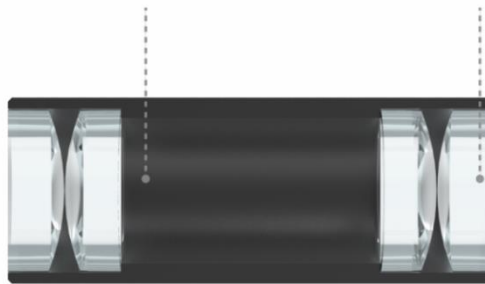

Figure 3.1 Schematic of the scan and tube lens
Step 20. Install the four lenses (#13) sequentially into the scan and tube lens holder (#12) using UV-curable adhesive, following the same protocol as Step 10 (Figure 3.1)